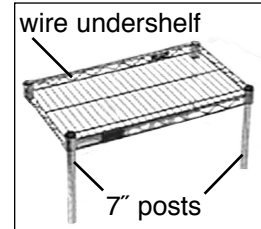

Figure 2a
- Assemble wire shelf to 7" posts (see Figure 2a).